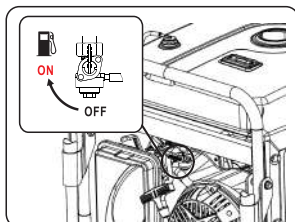

Fig 9
- Turn fuel valve to the "ON" position. (See fig 9)